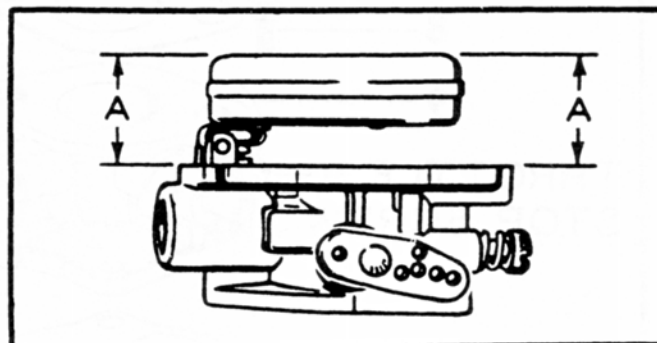

Figure 1
- a. If the float valve needle (13) was equipped with a spring use the spring as furnished in the kit. If the original needle did not have a spring, remove and discard the spring on the new needle in the kit. If the engine is equipped with a fuel pump do not use the spring on the needle.
- b. After installing the float (11) hold the throttle body (9) upside down and measure the float height as shown in figure 1. The bottom of the float